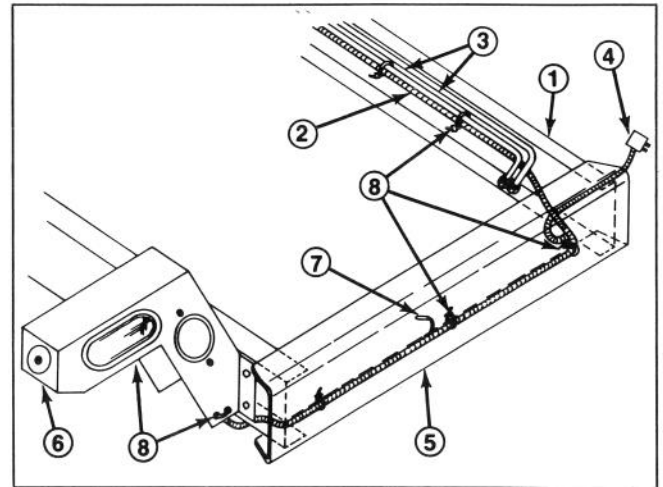

Figure 25
2. Connect the right hand harness connector to the right hand taillight assembly connector (Fig. 25).
3. Connect the left hand harness connector to the left hand taillight assembly connector (Fig. 25).
4. Insert cable ties through the holes in each arm and secure the harness to the arms (Fig. 25).
Note: An extra brown lead with connector is included for connection to a license plate light assembly, should one be necessary (Fig. 25).
5. Insert cable ties through the drilled holes in the rear bumper and secure the taillight wire harness to the bumper (Fig. 25).